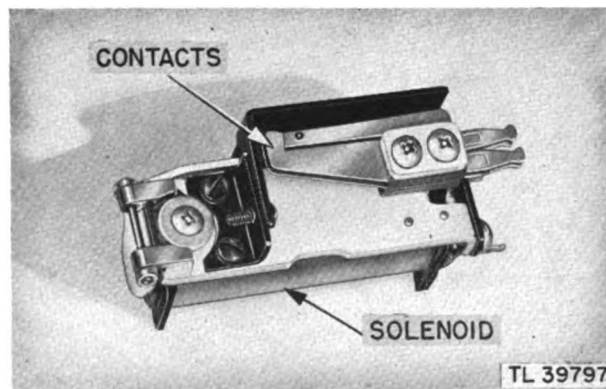

Figure 164. Auxiliary relay 1-E-3.
3. Improper adjustment of auxiliary relay 1-E-3 (fig. 164). See paragraph 79, section IV, Trouble Shooting in Control System.
- e. Figure 164, Auxiliary relay 1-E-3.
*a.* Adjustment of relay 1-E-3 (fig. 164) is somewhat critical, and care should be exercised to avoid altering its value of pull-in current.
(1) The relay does not pull in with the motor running. (As a result of the relay not pulling in, the starting winding remains connected and causes the motor to overheat and eventually to stop because of the operation of the thermal overload relay.)
(2) After the motor has started and is running normally, it does not change direction when the SCAN (forward-reverse) switch is quickly changed for opposite rotation.